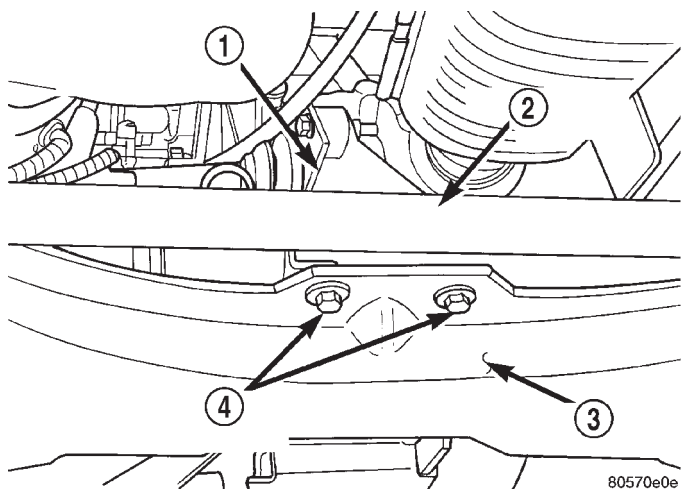

Fig. 17 Rear Support Bracket Attachment To Crossmember
(16) Remove the 2 attaching bolts from the rear support bracket (Fig. 17) at the rear of the front suspension crossmember.
(7) Install the 2 bolts attaching the rear support bracket, for the under engine support bracket (Fig. 17), to the rear of the front suspension crossmember. Tighten bolts to a torque of 75 N·m (55 ft. lbs.).